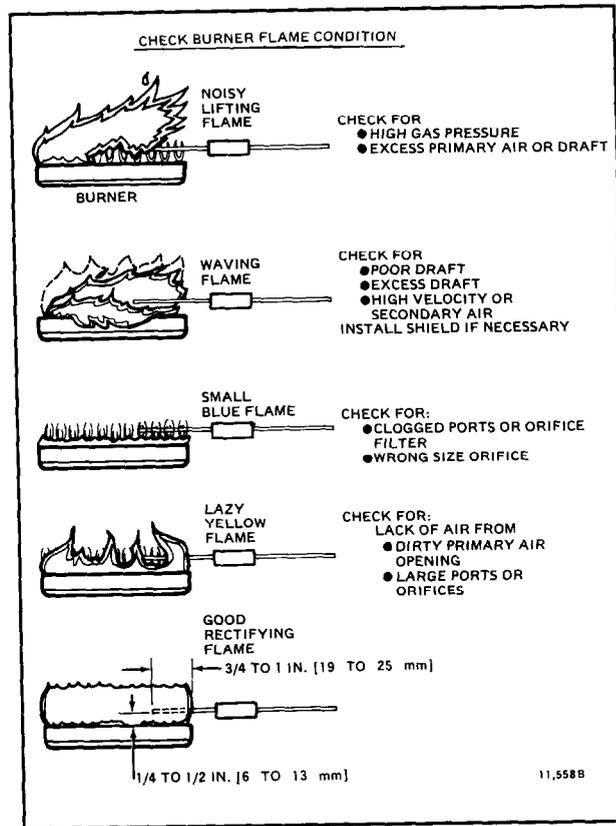

FIG. 11—CHECK BURNER FLAME CONDITION.
The igniter-sensor or sensor must be constantly immersed in flame. Check burner flame condition as shown in Fig. 11. If necessary, improve the flame condition or relocate the sensor to a place on the main burner where condition is better. Do not relocate igniter or igniter-sensor.
- Make sure burner flame is capable of providing a good rectification signal. See Fig. 11.
- Make sure about 3/4 to 1 in. of the flame sensor or igniter-sensor is continuously immersed in the flame for best flame signal. See Fig. 11. Bend the bracket or flame sensor, or relocate the sensor as necessary. Do *not* relocate an igniter or combination igniter-sensor.